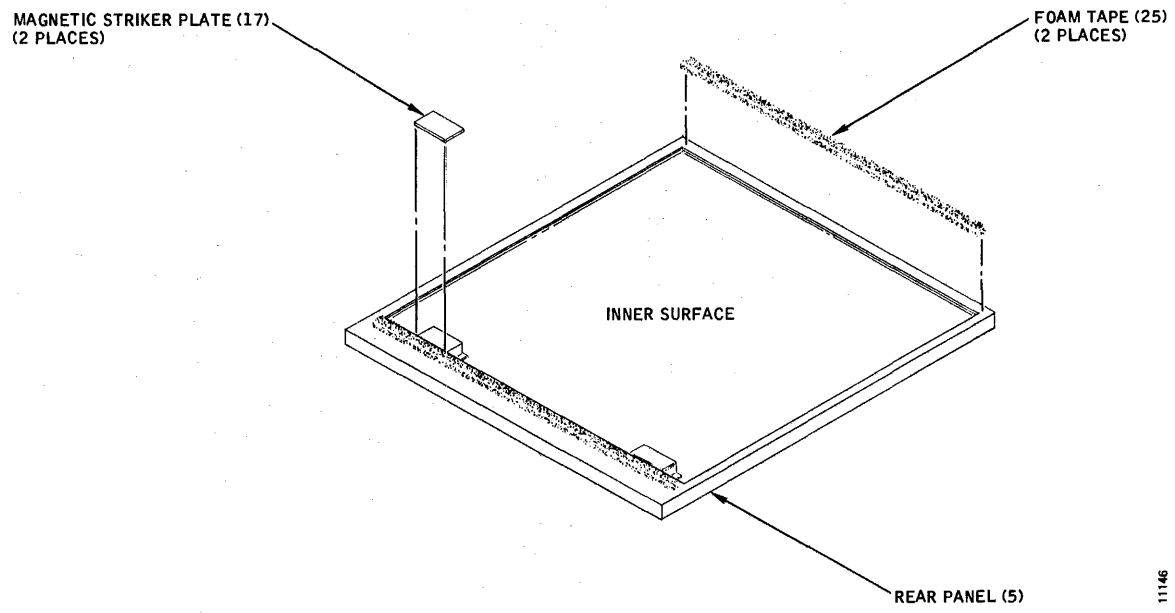

Figure A-6. Stand Assembly, Steps 11 and 12
11. Lay the Rear Panel (5) face down on its finished surface, and apply two lengths of adhesive-backed Foam Tape (25) to the top and bottom inner edges of the panel, as shown in Figure A-6. Remove the backing from the tape to expose the adhesive surface.
12. Install the two Magnetic Striker Plates (17) on the Rear Panel, as shown in Figure A-6. These plates also have adhesive surfaces.